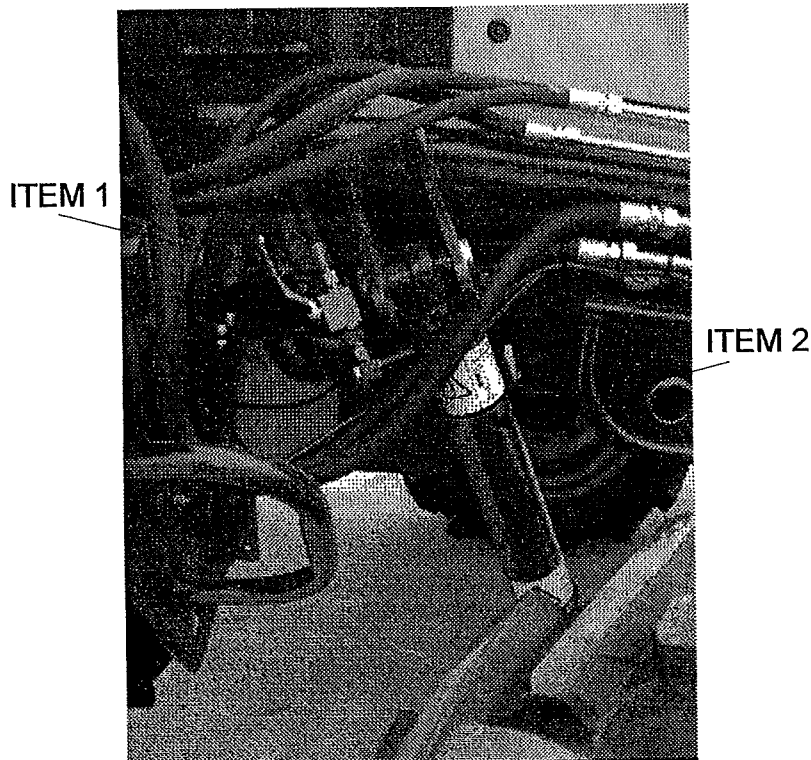

Fig 7.2
The right hand wheel is mounted on a pivoting axle beam and connected to the main chassis by a hydraulic cylinder (fig 7.2 item 2). Extending the cylinder will raise the chassis while closing the cylinder will lower the chassis on that side. The cylinder is controlled by a switch on the driver's control box (see section 4). Ensure transport lock is in the open position for work (fig 7.2 item 1).